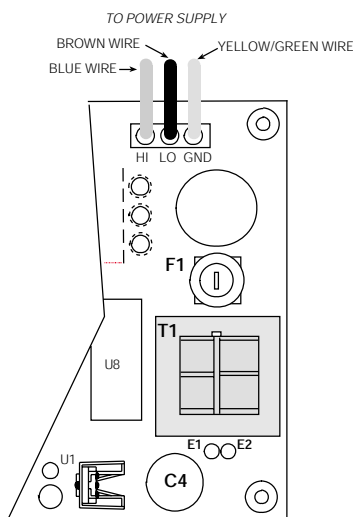

Figure 8-4. F1, T1, C4 Location
5. Remove the following components from the CPU board (shown in Figure 8-4)